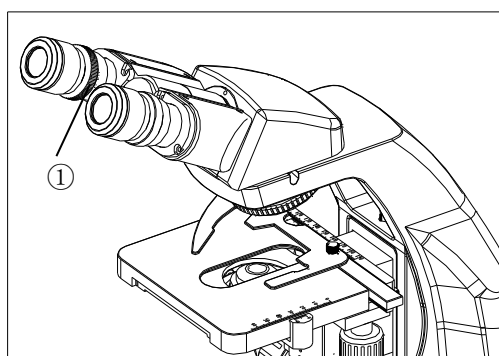

Fig.22
3.2.7 Adjusting the Diopter (Fig.22)